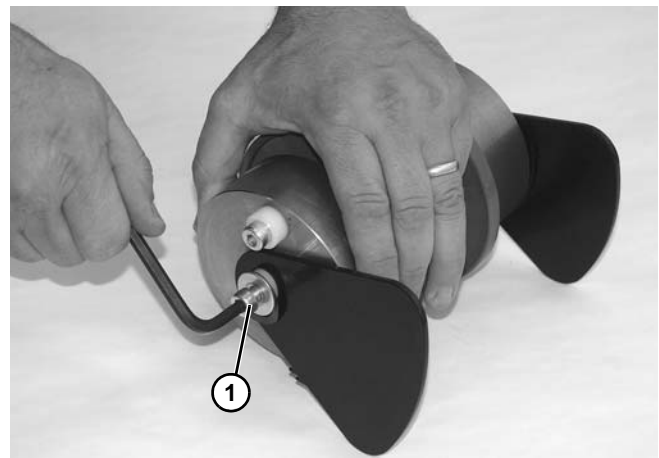

Figure 139
6. Remove socket head screw (**Figure 139, item 1**) from end of idler pulley assembly.